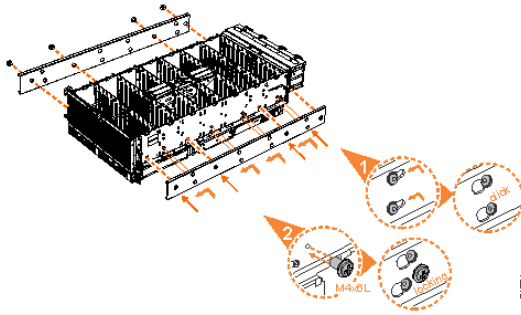

Figure 45. Attaching the inner rail section to the enclosure
5. Install the inner section of the rail onto each side of the expansion enclosure, as shown in Figure 45 on page 86.